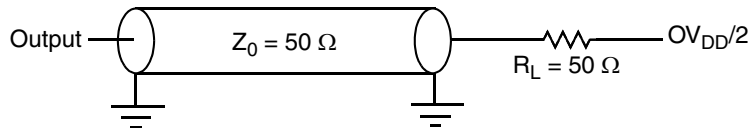
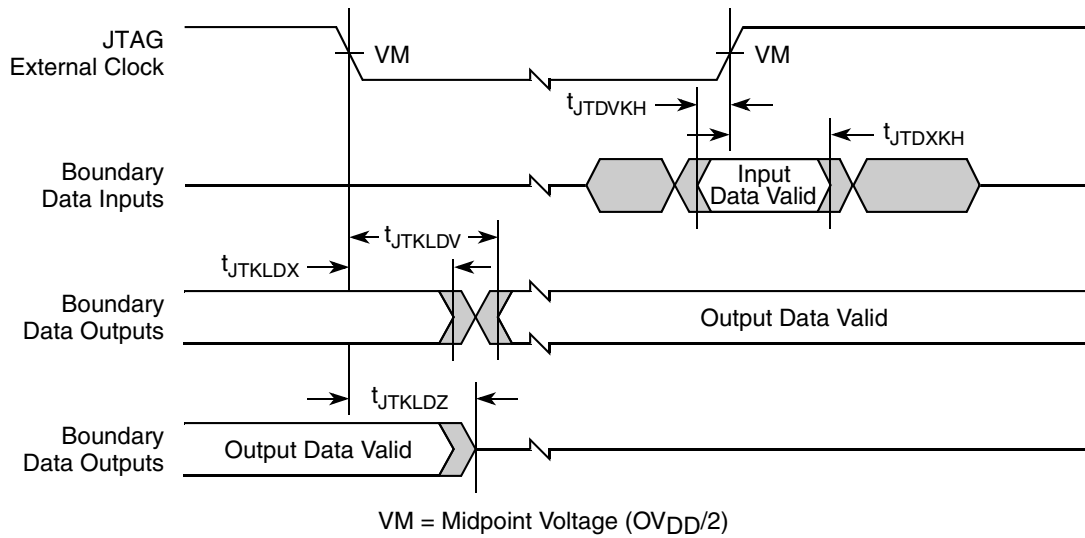

Figure 30. AC Test Load for the JTAG Interface
Figure 33. Boundary-Scan Timing Diagram
Table 45 provides the JTAG AC timing specifications as defined in Figure 30 through Figure 33.
1. All outputs are measured from the midpoint voltage of the falling/rising edge of t_{TCLK} to the midpoint of the signal in question. The output timings are measured at the pins. All output timings assume a purely resistive 50-Ω load (see Figure 30). Time-of-flight delays must be added for trace lengths, vias, and connectors in the system.
2. The symbols used for timing specifications follow the pattern of $t_{(first\ two\ letters\ of\ functional\ block)(signal)(state)(reference)(state)}$ for inputs and $t_{(first\ two\ letters\ of\ functional\ block)(reference)(state)(signal)(state)}$ for outputs. For example, t_{JTDVXH} symbolizes JTAG device timing (JT) with respect to the time data input signals (D) reaching the valid state (V) relative to the t_{JTG} clock reference (K) going to the high (H) state or setup time. Also, t_{JTDVXH} symbolizes JTAG timing (JT) with respect to the time data input signals (D) went invalid (X) relative to the t_{JTG} clock reference (K) going to the high (H) state. Note that, in general, the clock reference symbol representation is based on three letters representing the clock of a particular functional. For rise and fall times, the latter convention is used with the appropriate letter: R (rise) or F (fall).
Figure 30 provides the AC test load for TDO and the boundary-scan outputs.
Figure 33 provides the boundary-scan timing diagram.